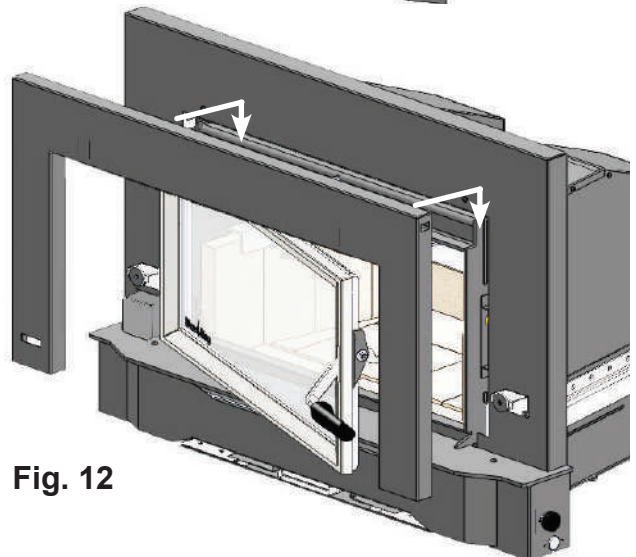

Fig. 12
5. Finally, position the front upper shroud by aligning the notches on its rear with the protruding screws on the rear shroud, then hang. The bottom of the outer shroud is held in place by magnets. (Fig. 12)